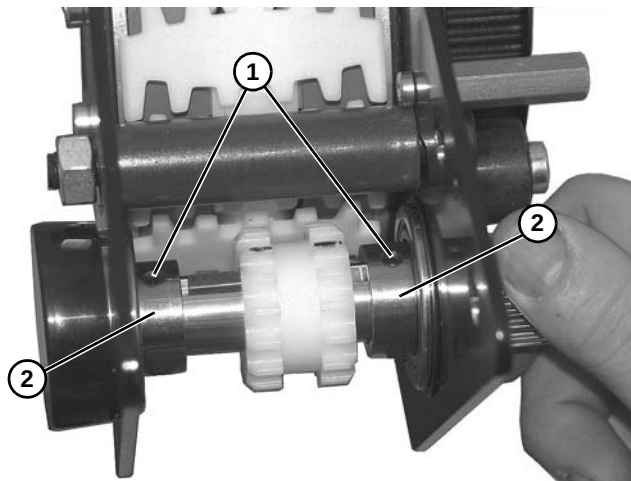

Figure 112
14. Loosen two set screws (**Figure 112, item 1**) on two bearings (**Figure 112, item 2**).